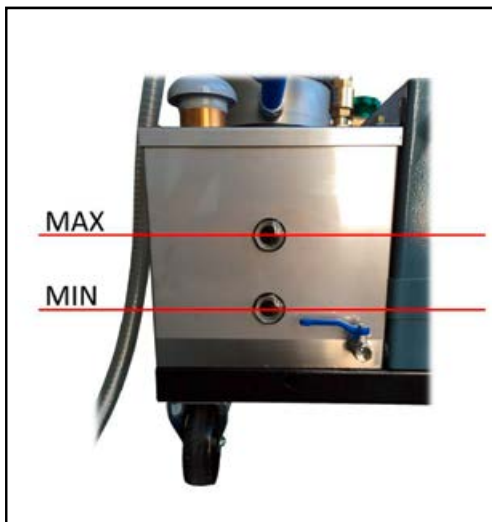

Figure 4: Filling level of water container
2. Check all connectors (13) for correct installation.
3. Make sure, all ball valves (14) are closed.
4. Open the air vent (5) and fill the water container (1) with water up to the middle of the upper sight glass (refer to Figure 4). Reattach the air vent.